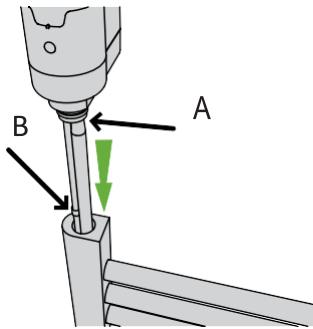

Fig. 5
3. Insert the tip of MOBUS heating element into the bottom hole of the towel rail as shown and make sure to select the female  $\frac{1}{2}$ " GAS thread of the towel rail in the opposite vertical tube to where the 3 Bar valve is installed (Fig. 5).